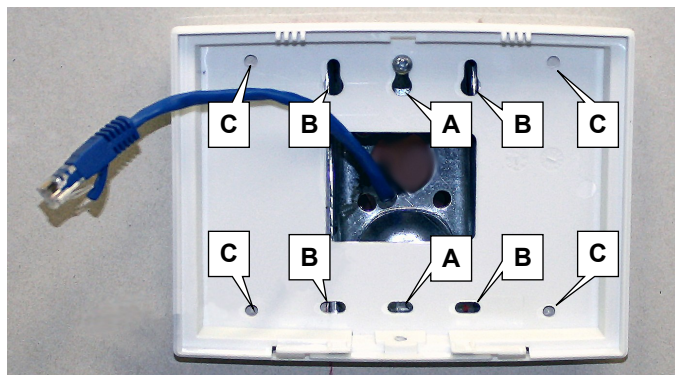

Fig. 2: Rear housing mounting holes for single-gang (A) and double-gang (B) electrical boxes, and four all-purpose holes (C)
2. Using the rear housing as a mounting template, secure the unit to a wall or other flat surface using the hardware provided (see page 11 for printed template). Shown in Fig. 2, the rear housing includes two mounting holes for single-gang (A) and four mounting holes for double-gang (B) electrical utility boxes, as well as four all-purpose holes (C) for mounting to drywall or other surfaces (use minimum #6 screws suitable for the surface).